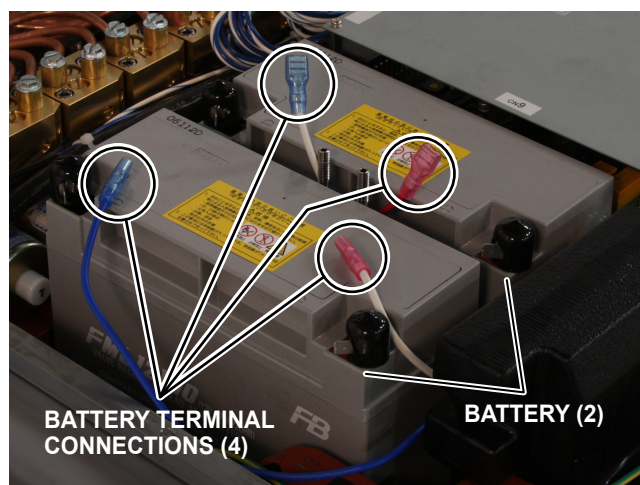

Figure 35. Battery Terminal Disconnect
4. Remove the wire terminal connections to both batteries (Figure 35).